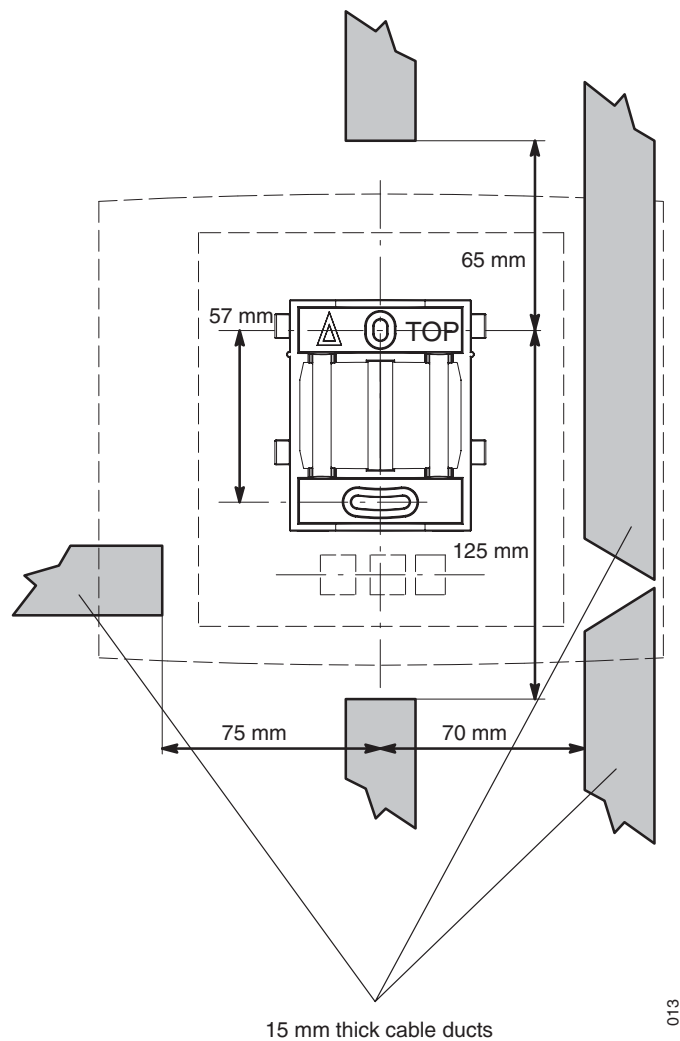

Figure 6. Minimum distances between a cable duct and the mounting bracket
- 1 Fix the cable duct to the wall in one of the positions shown in figure 6 on page 16.